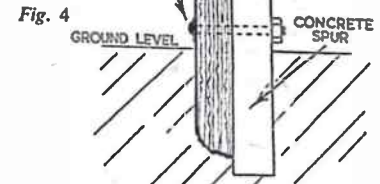

Fig. 4
Part (M), two required, seen in Fig. 8, but hidden in the other diagrams, is a plain piece of 13 ins. by ½ in. wood nailed to the top of (C), the nail heads being well sunken and filed. At this stage the job may be glued up, and whilst waiting for the glue to set, the lid of the seat can be prepared (Fig. 4).
If the lower part of the post is weak, a repair can be effected with reasonable economy by fitting a concrete spur in the way shown in Fig. 4. Spurs may be bought ready made from most builders' merchants and ironmongers, or can, at little cost, be made at home. The nuts and bolts securing the spur to the post should be galvanised or painted to prevent rusting and the repair will last almost indefinitely.